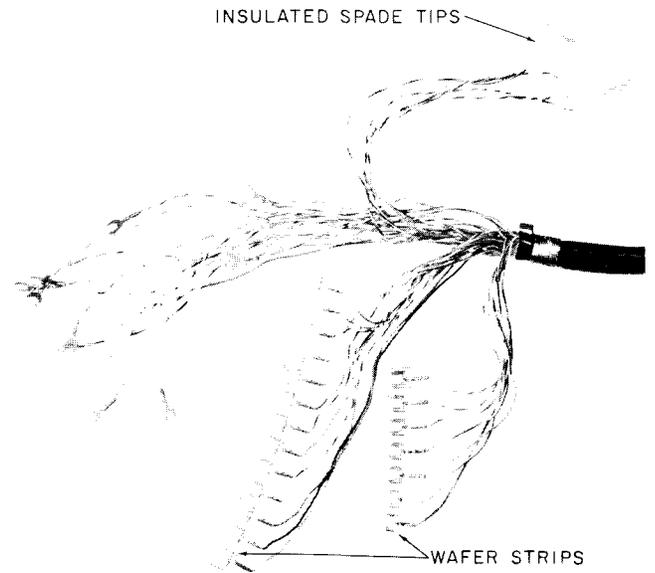

Fig. 10—Set End of Mounting Cord Used With 589-Type Keys
3.17 The set end of mounting cord conductors are individually spade tipped and spade-tipped wafer for terminating on 589- or 636-type keys (Fig. 10 and 11).